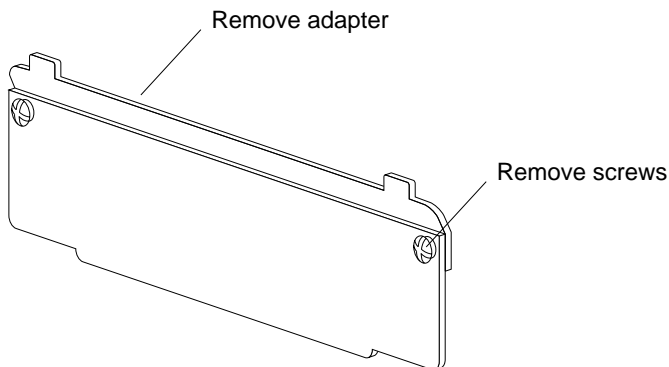

FIGURE 4-13 SBus Card Rear Panel With Adapter
2. Remove the adapter bracket from the SBus card rear panel (FIGURE 4-13).
See FIGURE 4-13 on page 4-16. Remove the two screws securing the adapter to the card rear panel (the adapter bracket and the screws are not needed for this installation).